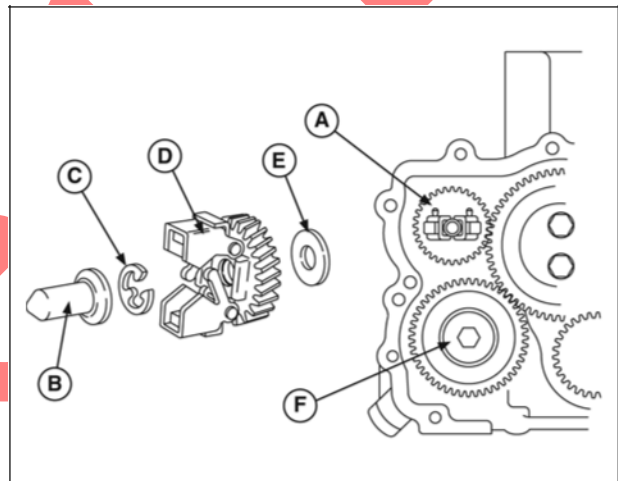

Figure 5
12. Remove governor gear (A, Figure 5), governor cup (B), E-ring (C), governor gear (D), and thrust washer (E).
13. Remove oil pump drive gear (F).